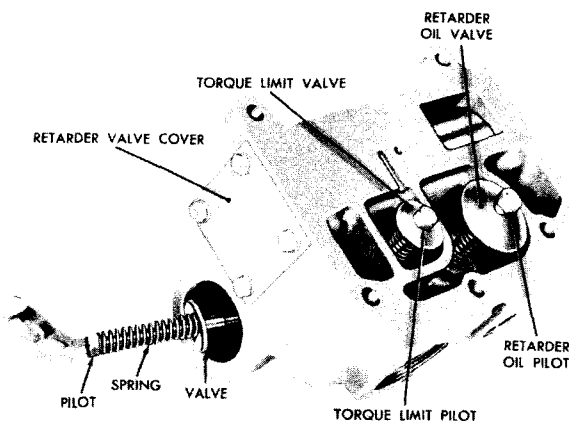

Fig X-4. Removing (or installing) converter "OUT" bypass valve, spring, and pilot
(1) To disassemble the valve body assembly into individual parts, use a 9/16-inch wrench to loosen the converter "OUT" bypass valve pilot while holding the nut on the pilot with a 1/2-inch wrench. Remove the converter "OUT" bypass pilot, spring, valve, and nut (fig. X-4).
(2) Remove the retarder oil pilot, valve, and spring from the retarder valve body. Refer to fig. X-4.
(3) Remove the torque limit pilot, valve, and springs from the retarder valve body. Refer to fig. X-4.
(5) Using a 1/2-inch wrench, remove the four bolts and washers that secure the retarder valve cover to the retarder valve body (fig. X-4). Remove the cover and gasket.
(3) Install the retarder valve cover and gasket (fig. X-4). Secure the cover to the valve body with four bolts and lock washers.
(5) Install the torque limit springs, valve, and pilot into the valve body. Refer to fig. X-4.
(6) Install the retarder oil spring, valve, and pilot into the retarder valve body. Refer to fig. X-4.
(7) Install the converter "OUT" bypass valve, spring, pilot, and nut (fig. X-4).